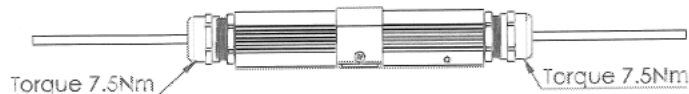

Figure 2-16 • Connecting Surge Protector
18. Plug the other end of the customer-supplied waterproof 12-inch CAT7 Ethernet cable into the "Line" end of the surge protector. See Figure 2-16 for details about connecting to the surge protector.
19. Plug the second customer-supplied waterproof CAT7 Ethernet cable into the "Equip" end of the surge protector. See Figure 2-16 for details about connecting to the surge protector.
22. Plug the other end of the second customer-supplied waterproof CAT7 Ethernet cable into the "Line" end of the second surge protector. See Figure 2-16 for details about connecting to the surge protector.
23. Plug the third customer-supplied Ethernet cable into the "Equip" end of the surge protector. See Figure 2-16 for details about connecting to the surge protector.